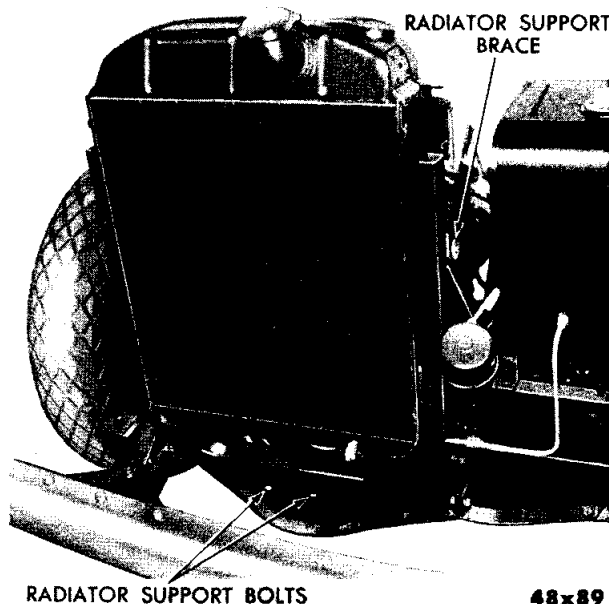

Fig. 17—Radiator Support Bolts—Radiator Support Brace
21. REMOVAL AND INSTALLATION OF RADIATOR CORE (FIG. 17)